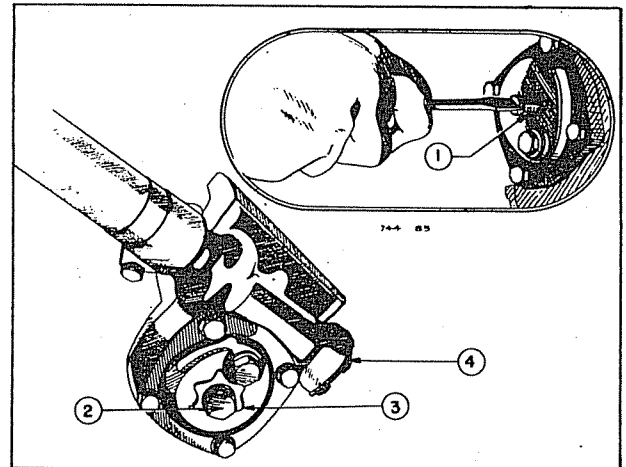

Fig. 4—Steering Gear Adjustments.
- (1) Disconnect the drag link from the pitman arm.
- (2) Turn the steering wheel to the mid position. To do this, turn the wheel to extreme right or left. Then turn back to the opposite extreme, counting the number of turns required to make the turn from one extreme to the other. Then, turn the steering wheel back one half that number of turns. The steering wheel will then be in mid position.
- (3) With the steering wheel in mid position, move the pitman arm back and forth to determine whether or not there is any backlash. There should be no backlash, but if there is more than $\frac{3}{32}$ inch free movement at the end of the pitman arm, the mesh of the roller tooth and worm should be adjusted.
- (4) Remove the cross shaft adjustment screw lock nut (2), Figure 4.
- (5) Slide off the lock plate far enough to clear the lock bars on the cross shaft cover.
- (6) Tighten the cross shaft adjustment screw (1) Figure 4, just enough to eliminate the free play between the cross shaft and the worm. **It must not bind.**
- (7) Slide the lock plate into position against the cross shaft cover and lock it.
- (8) Re-install and tighten the cross shaft adjustment screw lock nut.
- (9) Check the steering operation again for binding and backlash. Correct any inaccuracies in adjustment.
- (10) Re-install the drag link.